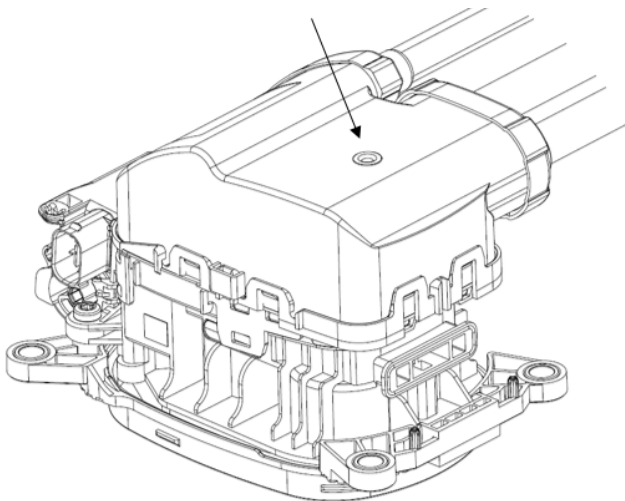

Figure 40
As part of the End of Line Test as listed in Chapter 7.7), perform the tightness check of the fully assembled charge inlet. The pressure port on the rear of CABLE EXIT COVER (item 7) as shown in figure 40 is designed to fit an elastic plastic tube (Polyurethane or similar) with an outer diameter of 4mm.